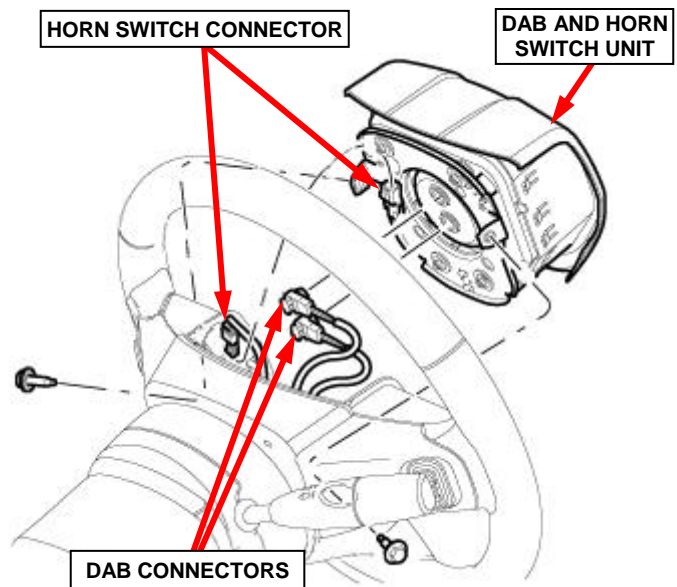

Figure 4 – Horn Switch Connector
5. Disconnect the steering wheel wire harness connector from the floating horn switch connector on the back of the DAB unit (Figures 4 and 5).
1. Position the **NEW** DAB and floating horn switch unit close enough to the steering wheel to reconnect the electrical connections to the back of the air bag housing (Figure 4).
2. Reconnect the steering wheel wire harness connector to the floating horn switch connector on the back of the DAB unit (Figures 4 and 5).